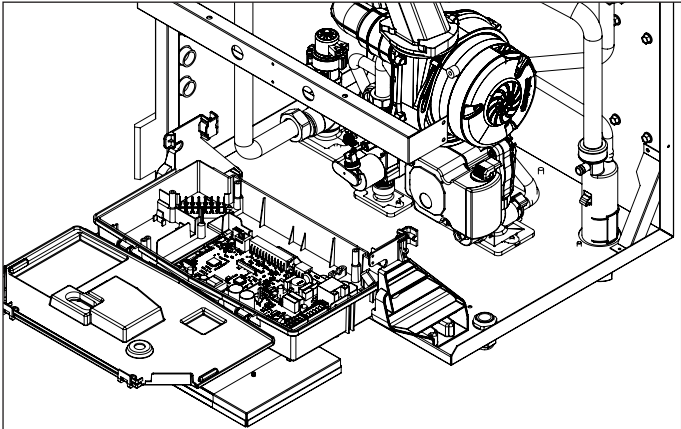

Figure 49 - Access to Low Voltage Wiring Connections
- 7. Open the control panel cover to have access to the main PCB. See Figure 49.